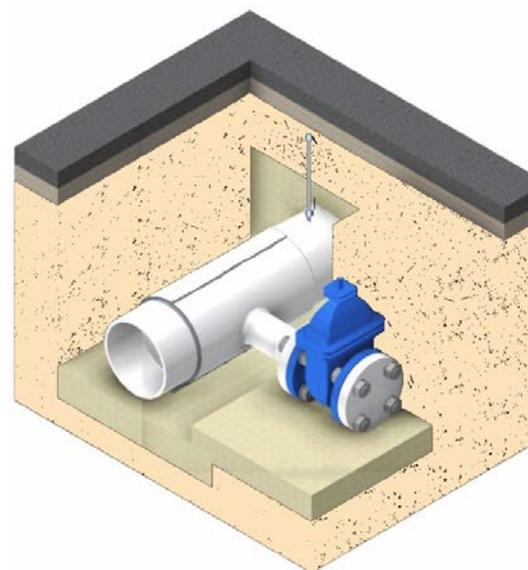

Figure 10 - Split/Full encirclement Tee
1. Where it is not possible to comply with the requirements of the connection Table 10 - Small diameter steel welded connections, connections to steel mains above 2bar and up to 7bar require a full encirclement fitting, see Figure 10 - Split/Full encirclement Tee.